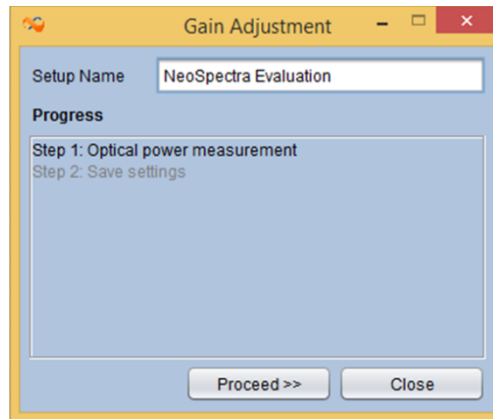

Figure 6.8: Wizard for the creation of new optical gain settings
2. In the wizard, type the name of the optical gain you would like to add in the “Setup Name” field (see Figure 6.8).